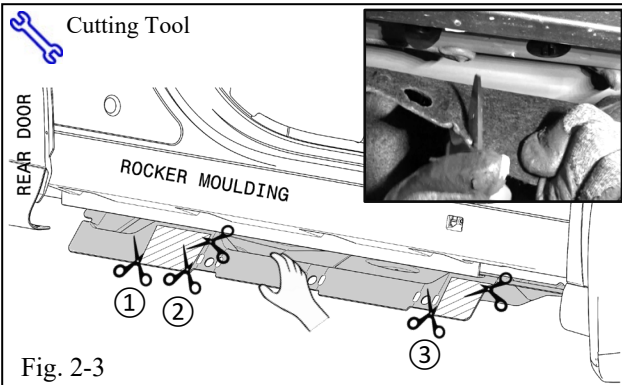

Fig. 2-3
- (c) Pull down the undercover exposing the trimming guidelines molded into the surface at each bracket location (Fig. 2-3).
- (d) Using a cutting tool, carefully cut along the vertical and horizontal guidelines at each bracket location. There are five (5) in total (Fig. 2-3). Dispose of the piece that was just cut.